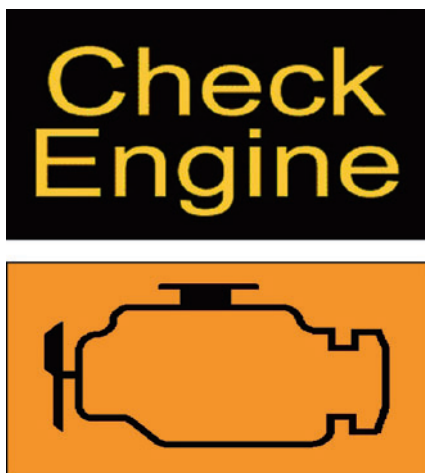

Figure 5.4 Malfunction indicator lamp symbols
When an issue occurs, the OBD system illuminates a warning lamp known as the malfunction indicator lamp (MIL) or malfunction indicator (MI) on the instrument cluster. In the United States, this symbol often appears with the phrase 'Check Engine', 'Check' or 'Service Engine Soon' contained within it. European vehicles tend to use the engine symbol on an orange background (Figure 5.4).